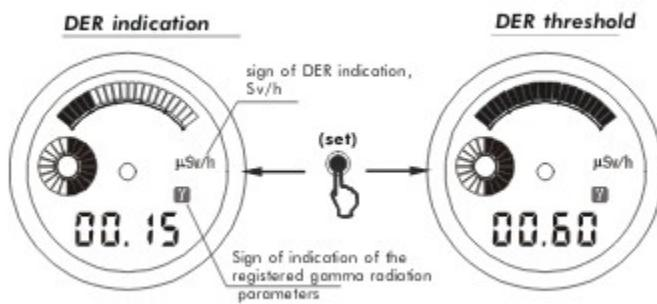

Fig. 2.5
Enter the DER indication as described in paragraph 2.4.1. Then press and release the “set” button (2) to display the preset threshold of DER ($\mu\text{Sv}/\text{h}$) and the filled in linear analogue scale on the LCD (Fig. 2.5). In approximately 5 seconds, the indicator will automatically return to the DER indication.